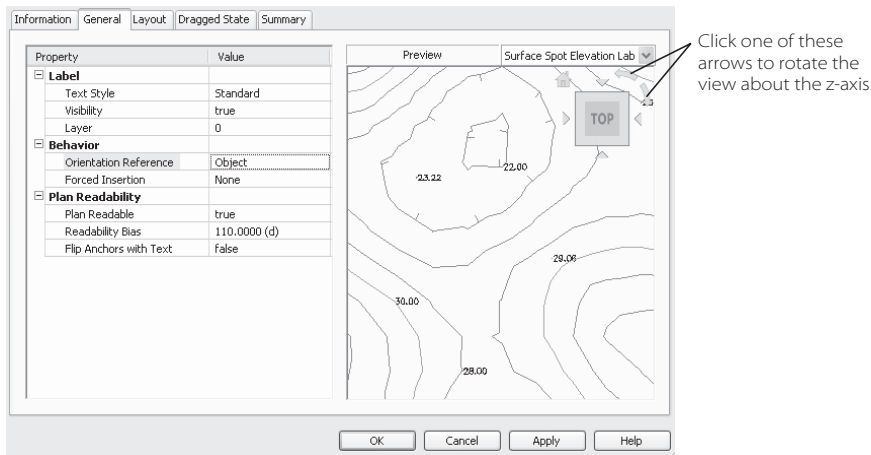

Figure 1.21
5. In the preview area, click one of the rotation arrows as shown in Figure 1.21.